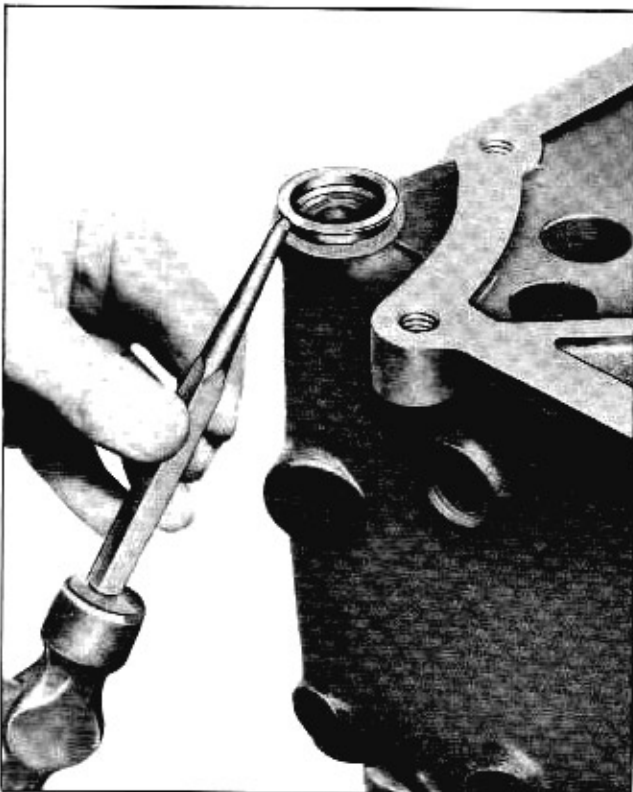
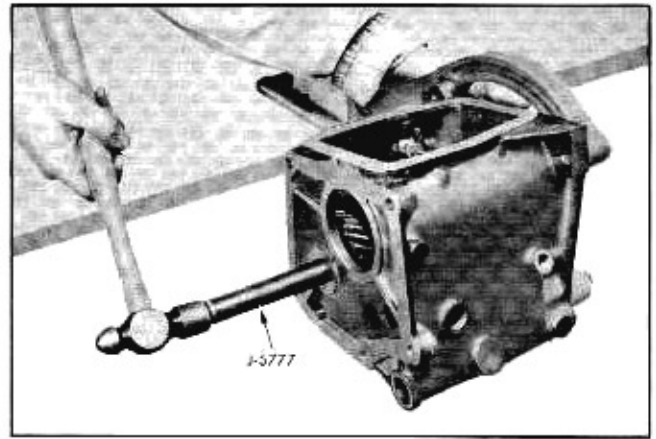

Fig. 7-29 Removing Seal
Fig. 7-30 Removing Countergear Shaft
15. Remove manual shift shaft seal (Fig. 7-29). All transmission on components are shown in Fig. 7-30.
16. Remove countergear and thrust washers by driving countergear shaft out from front of case with tool J-5777 (Fig. 7-30).